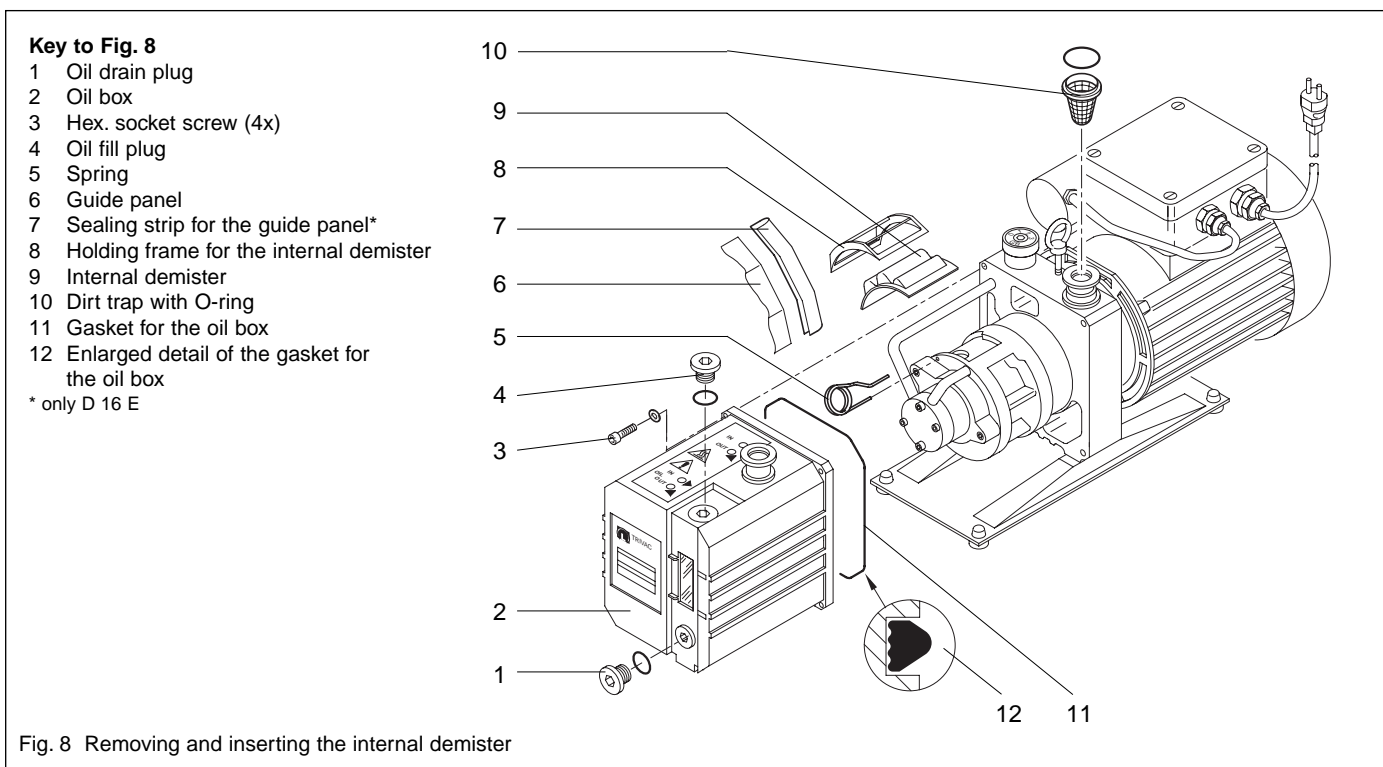

Fig. 8 Removing and inserting the internal demister
Caution Make sure to fit the gasket for the oil box (8/11) with the flat side in the groove, see item 12 in Fig. 8.